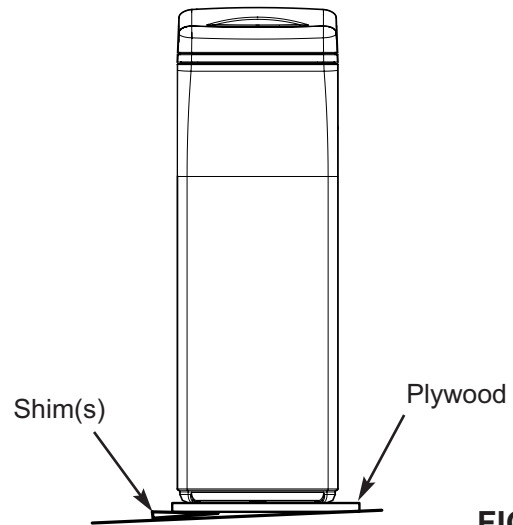

FIG. 12
1. Move the water softener into desired location. Set it on a level surface. If needed, place the water softener on a section of plywood, a minimum of 3/4" thick. Then place shims under the plywood to level the water softener (See Figure 12).